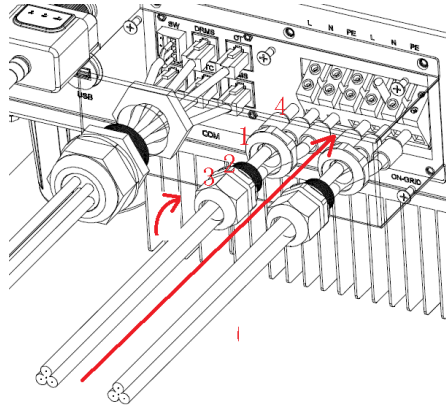

Fig. 6.3.2.1
- ① According to the wire diameter in Table 6.2, select the L (red/brown), N (black/blue) and PE (yellow-green) cables with appropriate wire diameter, strip off 5 mm insulation layer and route the cables through the waterproof cover and waterproof terminal as shown in Fig. 6.3.2.1.
- ② Fix the waterproof terminal on the waterproof cover. In Fig. 6.3.2.1, route 2 through the waterproof cover and tighten 1.